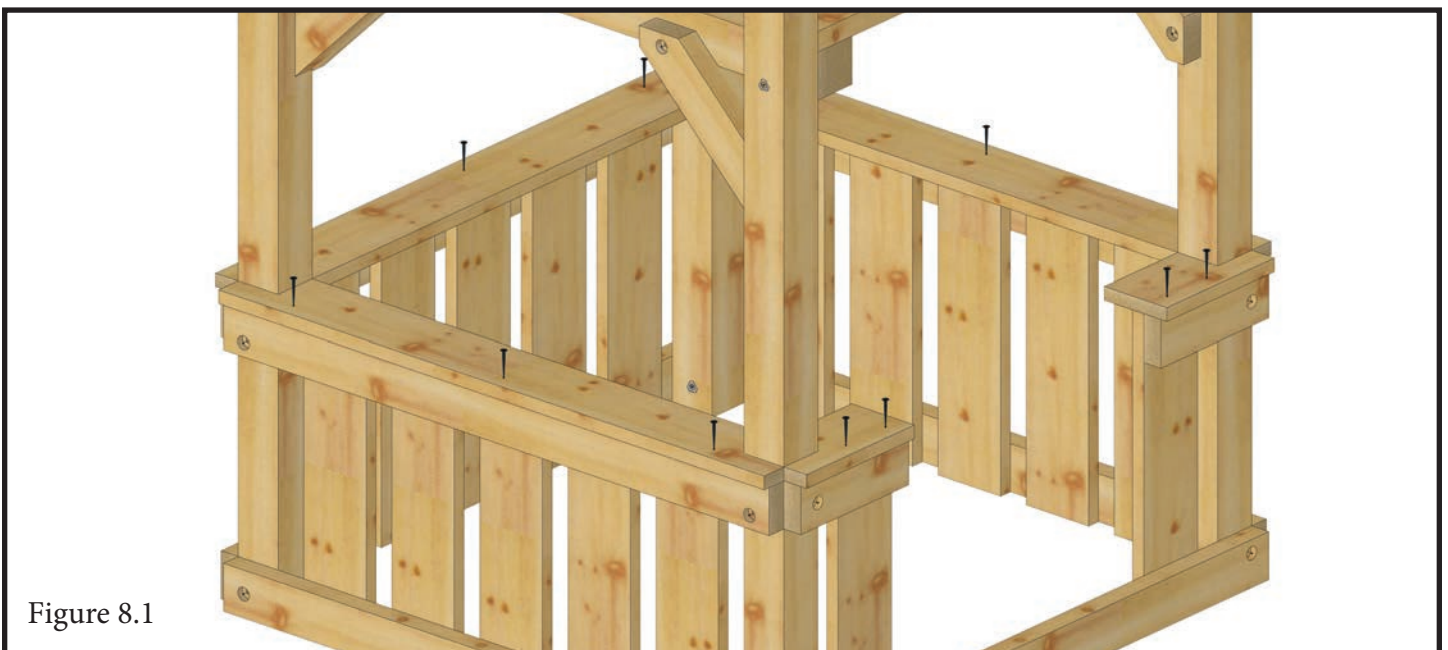

Figure 8.1
8.2 Pre-drill and fasten Counter 48" to Top Panels with #8x2 screws as shown in Figure 8.1.
8.3 Pre-drill and fasten Counter 12" to Top Panel 12" with #8x2 screws as shown in Figure 8.1.